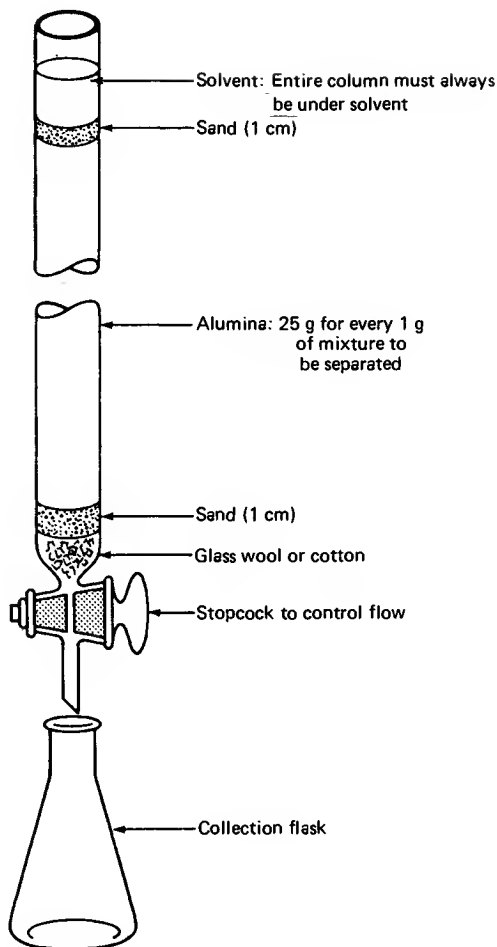

Fig. 98 Wet-column chromatography setup.
1. The alumina is supported by a glass tube with either a stopcock or a piece of tubing and a screw clamp to control the flow of eluent (Fig. 98). You can use an ordinary buret. What you will use will depend on your own lab program. Right above this control you put a wad of cotton or glass wool to keep everything from falling out. *Do not use too much cotton or glass wool, and do not pack it too tightly.* If you ram the wool into the tube, the flow of eluent will be very slow, and you'll be in lab till next Christmas waiting for the eluent. If you pack it *too loosely*, all the stuff in the column *will fall out*.